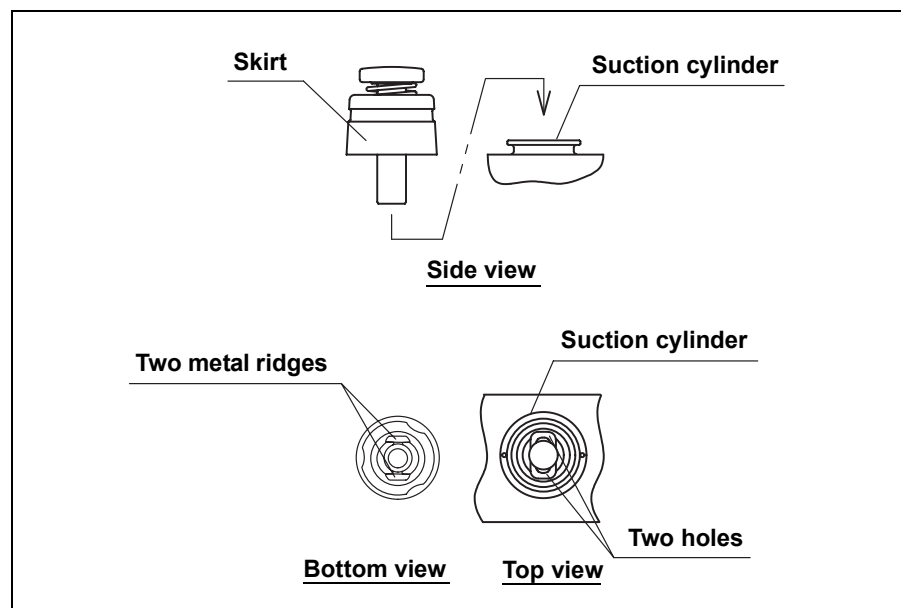

Figure 3.13
2. Attach the suction valve to the suction cylinder of the endoscope (see Figures 3.13 and 3.14). Confirm that the valve fits properly without any bulging of the skirt.